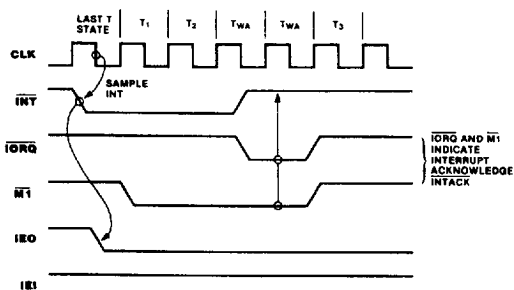

Figure 18. Interrupt Acknowledge Timing
**Interrupt Acknowledge Timing.** During  $\overline{M1}$  time, peripheral controllers are inhibited from changing their interrupt enable status, permitting the Interrupt Enable signal to ripple through the daisy chain. The peripheral with  $\overline{IEI}$  High and  $\overline{IEO}$  Low during  $\overline{INTACK}$  places a preprogrammed 8-bit interrupt vector on the data bus at this time (Figure 18).  $\overline{IEO}$  is held Low until a Return From